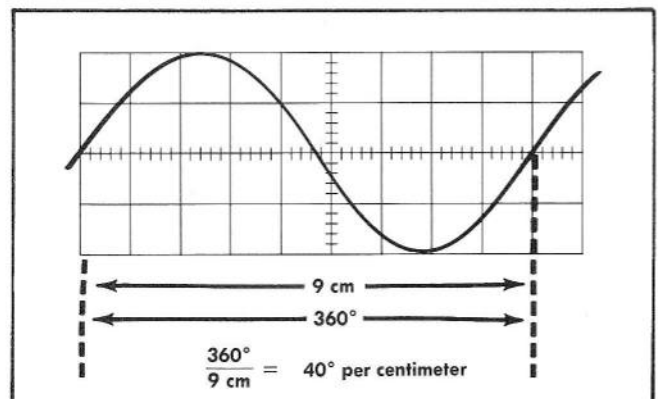

Fig. 3-2. One method for calibrating the oscilloscope display in degrees per centimeter.
You will recall that a complete cycle of a sinusoidal waveform is 360 degrees. Using this fact it is possible to calibrate the oscilloscope display directly in degrees per centimeter by means of the TIME/CM Controls. For example, if the TIME/CM Controls are adjusted so that one cycle of the input waveform covers 9 centimeters (see Figure 3-2), each centimeter then corresponds to 40 degrees. Under this condition the display is calibrated to 40 degrees per centimeter.
It is therefore possible to measure phase angles by: (1) calibrating the display in degrees per centimeter; (2) measuring the displacement between corresponding points on the two phases; and (3) multiplying the displacement by the number of degrees per centimeter. This is the method illustrated in Figure 3-2. Note that the relative amplitude of the two signals does not affect the phase measurement so long as the signals are both centered about the horizontal centerline. It is important to note that the two waveforms shown in the illustration do not appear simultaneously on the oscilloscope screen. The first waveform is displayed and positioned to a convenient reference point. The second waveform is then displayed and compared to this reference point.
2. Connect the first (leading) waveform to the oscilloscope input. Adjust the TIME/CM Control so that one cycle of the input waveform covers exactly 9 centimeters. This corresponds to 40 degrees per centimeter, as in Figure 3-2.